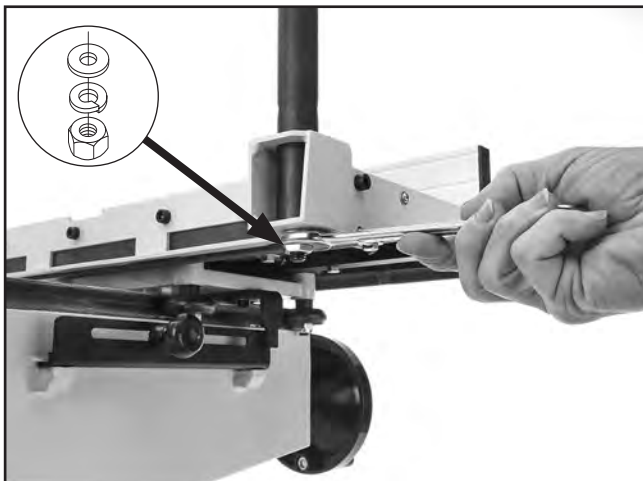

Figure 9. Mounting hold-down post to table.
2. Attach hold-down post to table with 12mm flat washer, 12mm lock washer, and M12-1.75 hex nut (see **Figure 9**).